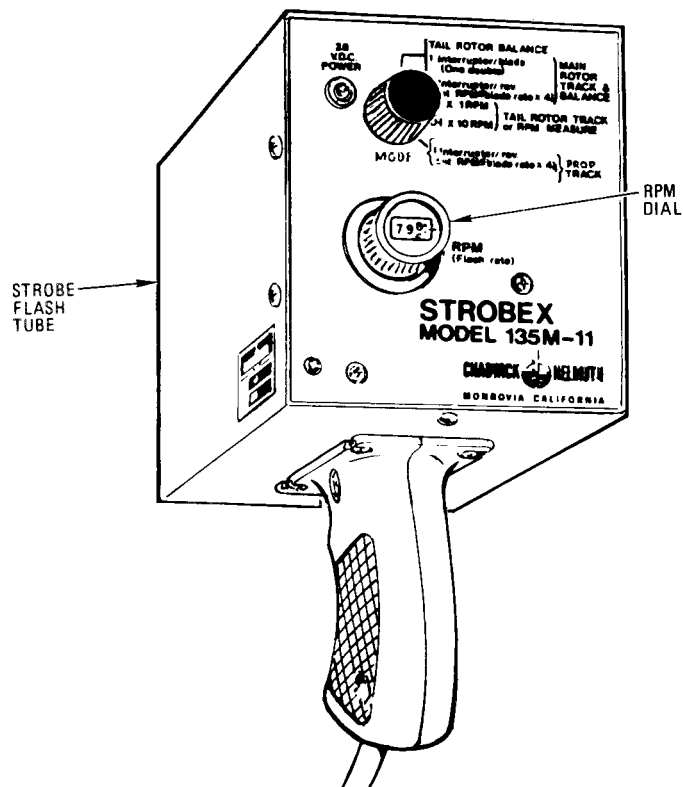

Figure 1-3. Strobex Tracker 135M11
*b. Strobex Tracker 135M11.* The Strobex Tracker (fig. 1-3) (hereafter referred to as Strobex) is a small hand held lightweight combination power supply and strobe flash tube. It illuminates reflective targets on the tail rotor to measure tail rotor clock angle, and on the main rotor to indicate rotor track and lead-lag.